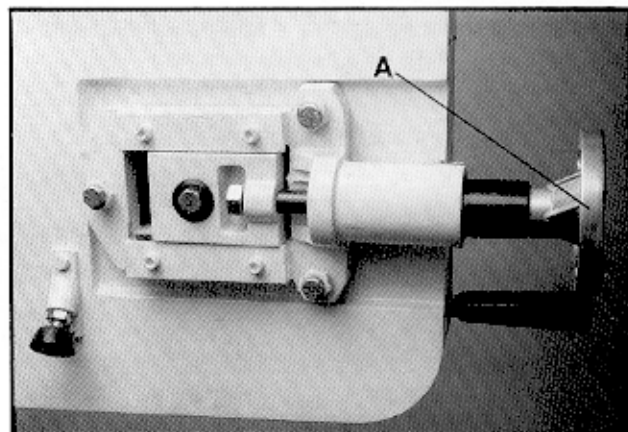

Fig. 7
5. Release blade tension by turning blade tensioning handwheel (A, Fig. 7) counter-clockwise until blade is free.